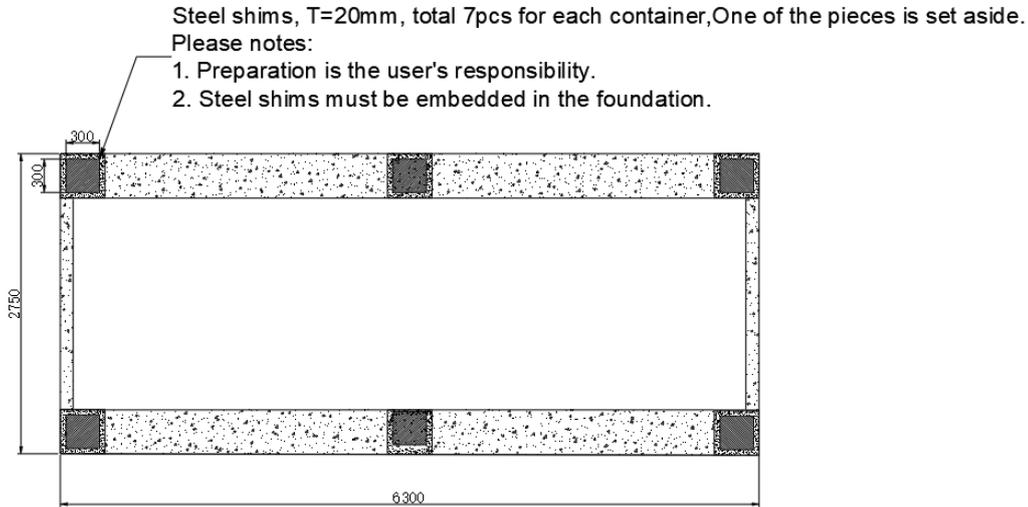

Figure 6-1 Foundation installation diagram (unit: mm)
This section provides a foundation construction plan (as shown in Figure 6-1) for user reference.
- For other recommended dimensions, please refer to the above figure (Figure 6-1/2) and the drawings.